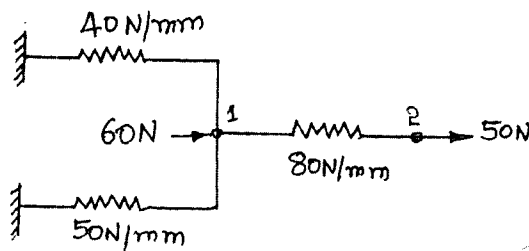

Fig.Q1(c)
- c. Using minimum potential energy determine the nodal displacement of a spring system shown in Fig. Q1(c). (08 Marks)